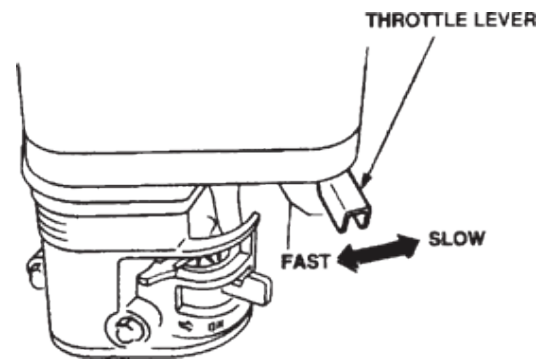

FIGURE 11
9.9 To begin troweling, move the throttle lever (Figure 11) toward the "FAST" position.
10.1 Move the throttle lever to the IDLE or SLOW position (Figure 11) and run the engine for three minutes at low speed.